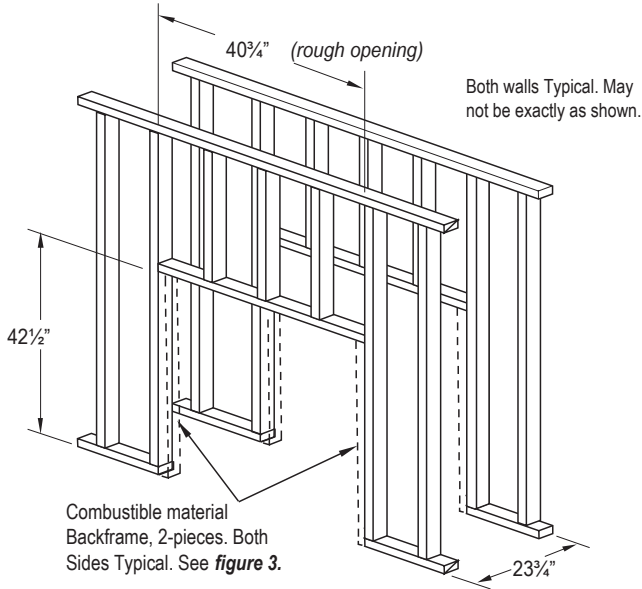

Figure 2. Framing dimensions, (Both Sides Typical).
- 1). Frame in the enclosure for the unit with framing materials. The framed opening for the assembled fireplace is 40³/₄" wide, x 42¹/₂" high x 23³/₄" deep, see **Figure 2**.